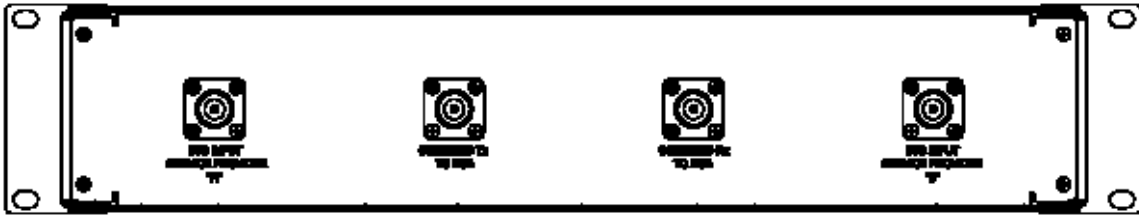

Figure 7. RF Combiner Rear Panel.
- Figure 7: RF Combiner Rear Panel
The user desiring to accommodate more than one carrier in an EkoLite II system will require a combiner such as the one depicted in Figure 7.